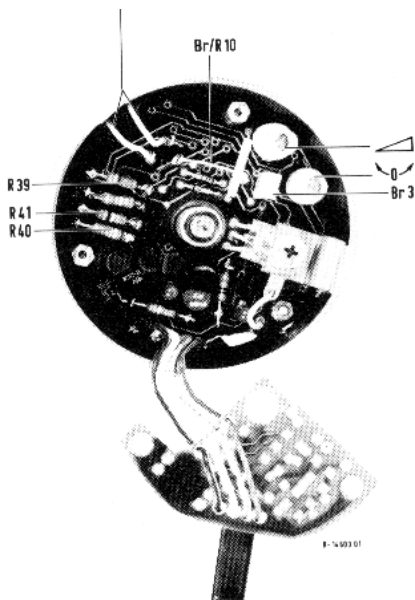

Fig. 7-1 Position of Br/R10, BR3, R40, R39
**Position of R40** see Fig. 7-1.
Resolder yellow connection lines between differential capacitor and the solder terminals on the electronic circuit board (see Fig. 7-1 on page 19).
The position of resistors R39 and R40 is shown in Fig. 7-1.